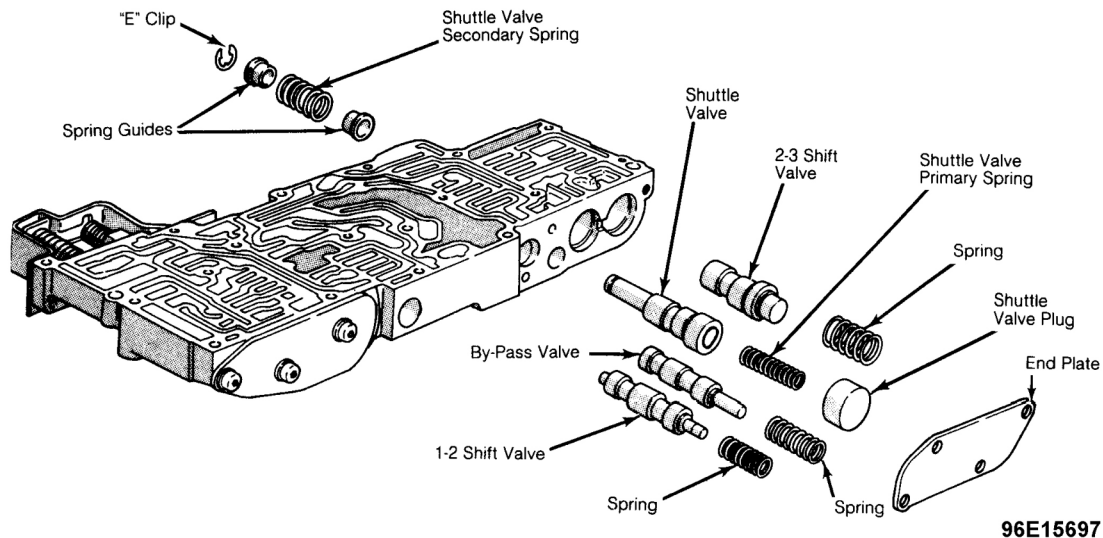

Fig. 13: Exploded View of Shuttle Valve & Shift Valve Trains
7. Remove remaining end plate from valve body. Remove 1-2 shift valve train, by-pass valve train, shuttle valve train and 2-3 shift valve train. Keep in order for reassembly reference. See **Fig. 13**.